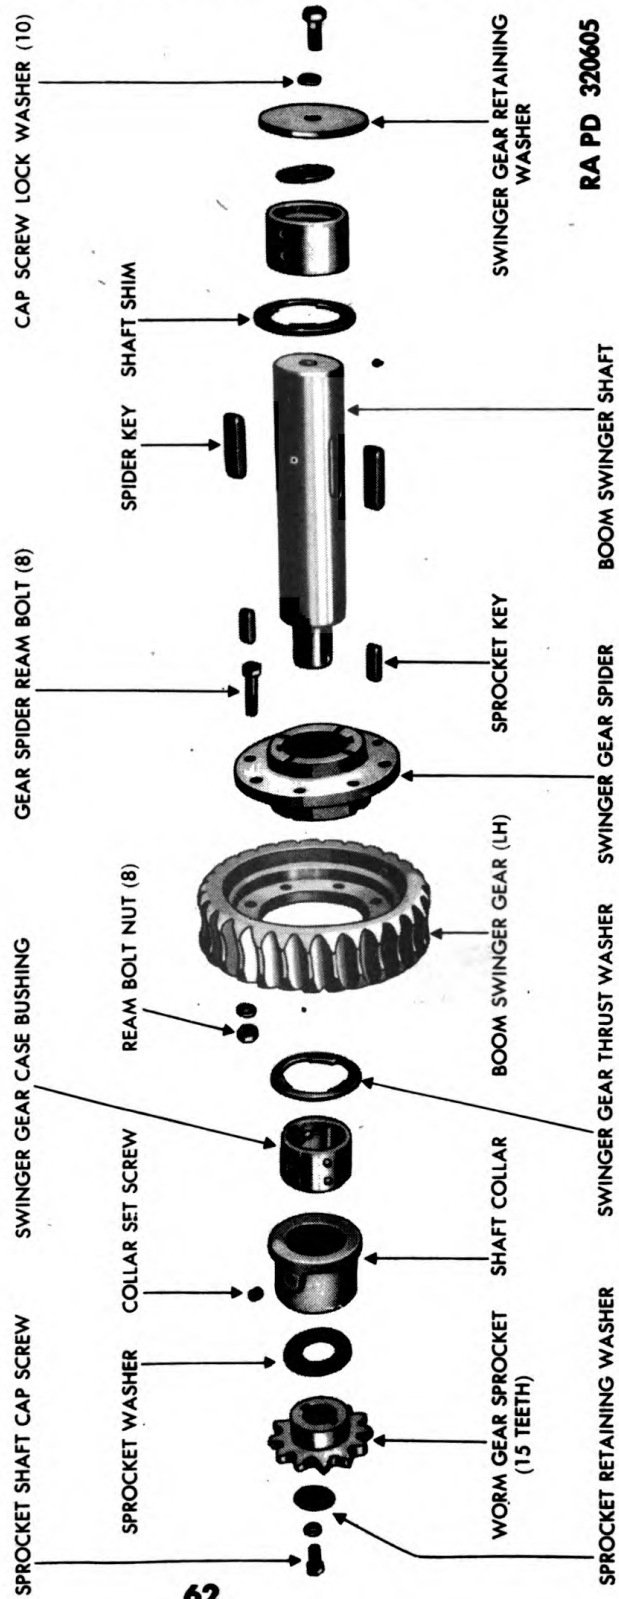

Figure 44 — Boom Swinger Gear and Shaft — Disassembled
e. Disassemble Swinger Gear and Shaft. Remove sprocket shaft cap screw, lock washer, and retaining washer. Remove the gear shaft retaining cap screw, plate, and adjusting pin. Place the gear and sprocket assembly in a hydraulic press, and press the sprocket off the gear shaft. Lift out the two sprocket keys, and slide the sprocket washer off the shaft. Remove the set screw from the shaft collar, and slide the collar off the shaft. Remove the swinger gear case bushing. Remove eight $\frac{1}{2}$ -inch special ream bolts securing swinger gear to spider. Place the shaft and spider in a hydraulic press, press the spider off the shaft, and lift out the spider keys (fig. 44).
g. Assemble and Install Swinger and Shaft Gear. Install the keys in the swinger shaft. Press the spider on the shaft until spider thrust faces are flush with ends of shaft keys. Set the swinger gear onto the spider and install the eight special ream bolts, nuts, and lock washers (fig. 44). Slide the thrust washers onto the shaft, and place shaft bushings on the shaft with the annular groove toward the shaft ends. Set the shaft and gear assembly in the gear case, and locate bushings on the case dowel pins. The sprocket end of the shaft is opposite the shift cover. Using new gaskets between the upper and lower gear case halves, set the upper case half in position and install six $\frac{7}{16}$ -inch cap screws and lock washers. Slide gear shaft collar on the gear shaft, and allow $\frac{1}{32}$ inch between the collar and gear case. Install the collar set screw. Install swinger gear retaining washer and lock washer on a retainer plate cap screw, and add or subtract spacer shims between the shaft and retaining washer until $\frac{1}{32}$ -inch clearance exists between the retaining washer and the gear case. Install sprocket thrust washer on shaft, and install the sprocket key. Drive the sprocket onto the shaft until it shoulders against the retaining collar. Install the sprocket retaining washer, cap